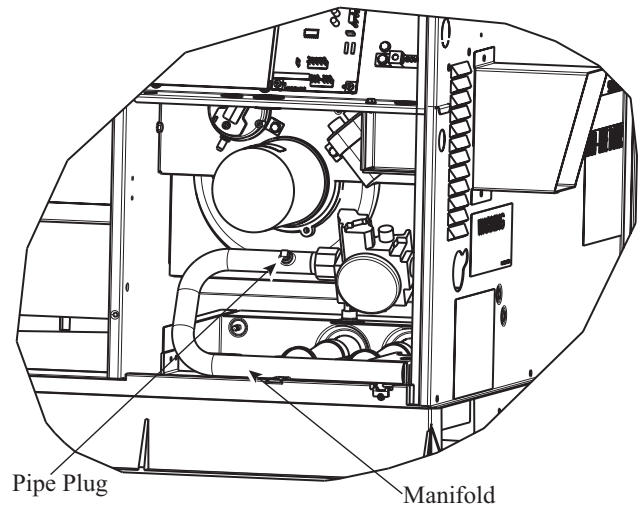

Fig. 11 – Burner Assembly
2. Remove pipe plug on manifold (See Fig. 11) and connect manometer. Turn on gas supply to unit.
- Turn off gas supply to unit. Remove manometer from pressure tap and replace pipe plug on gas valve. (See Fig. 11.) Turn on gas to unit and check for leaks.